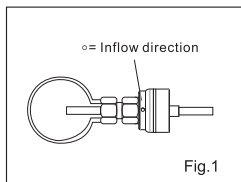

Fig.1
1. It is suggested to install the sensor in the horizontal pipe. (Fig.1)
- It is suggested to install the sensor in the horizontal pipe. (Fig.1)